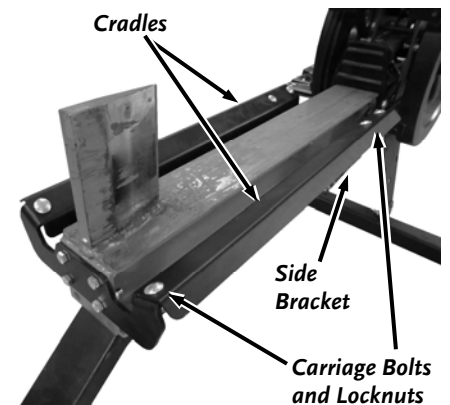

Figure 2
2. Remove the three Carriage Bolts and Locknuts for each Cradle using a 9/16" Wrench and remove the Cradles (Figure 2).